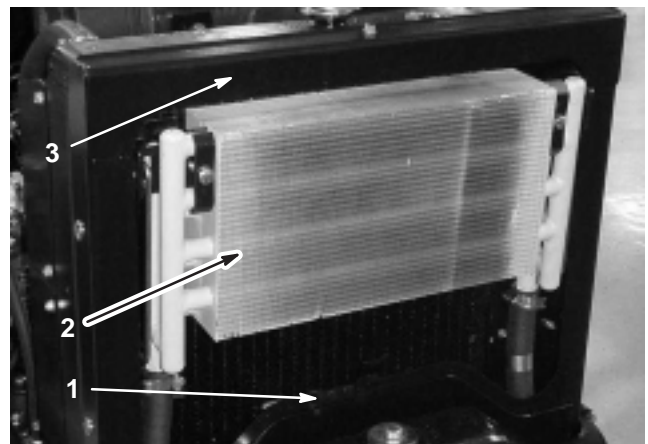

Figure 49
2. Remove the access panel (Fig. 49).